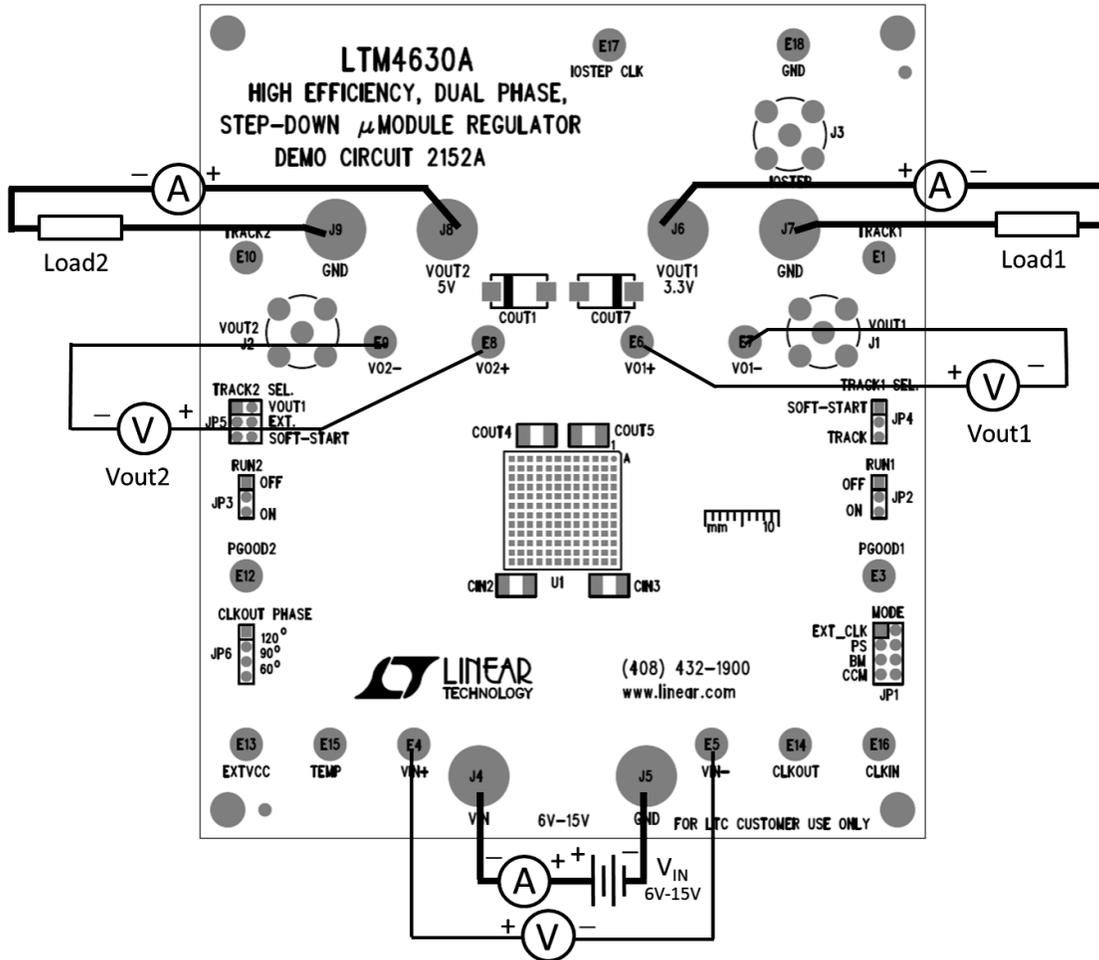

Figure 1. Test Setup of DC2152A
Demonstration circuit DC2152A is easy to set up to evaluate the performance of the LTM4630AEV. Please refer to Figure 1 for proper measurement setup and follow the procedure below:
- With power off, connect the input power supply, load and meters as shown in Figure 1. Preset the load to 0A and V_{IN} supply to 12V.